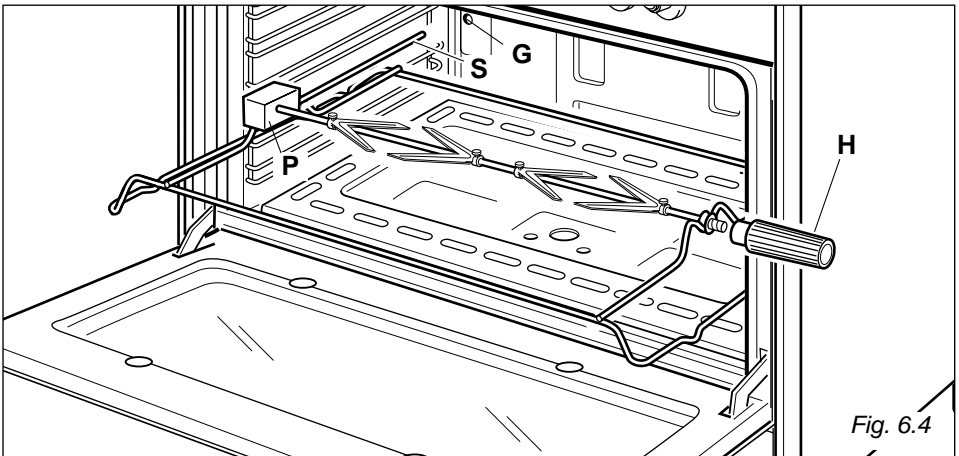

Fig. 6.4
- Insert the rod into the side gear opening “P” (fig. 6.4)